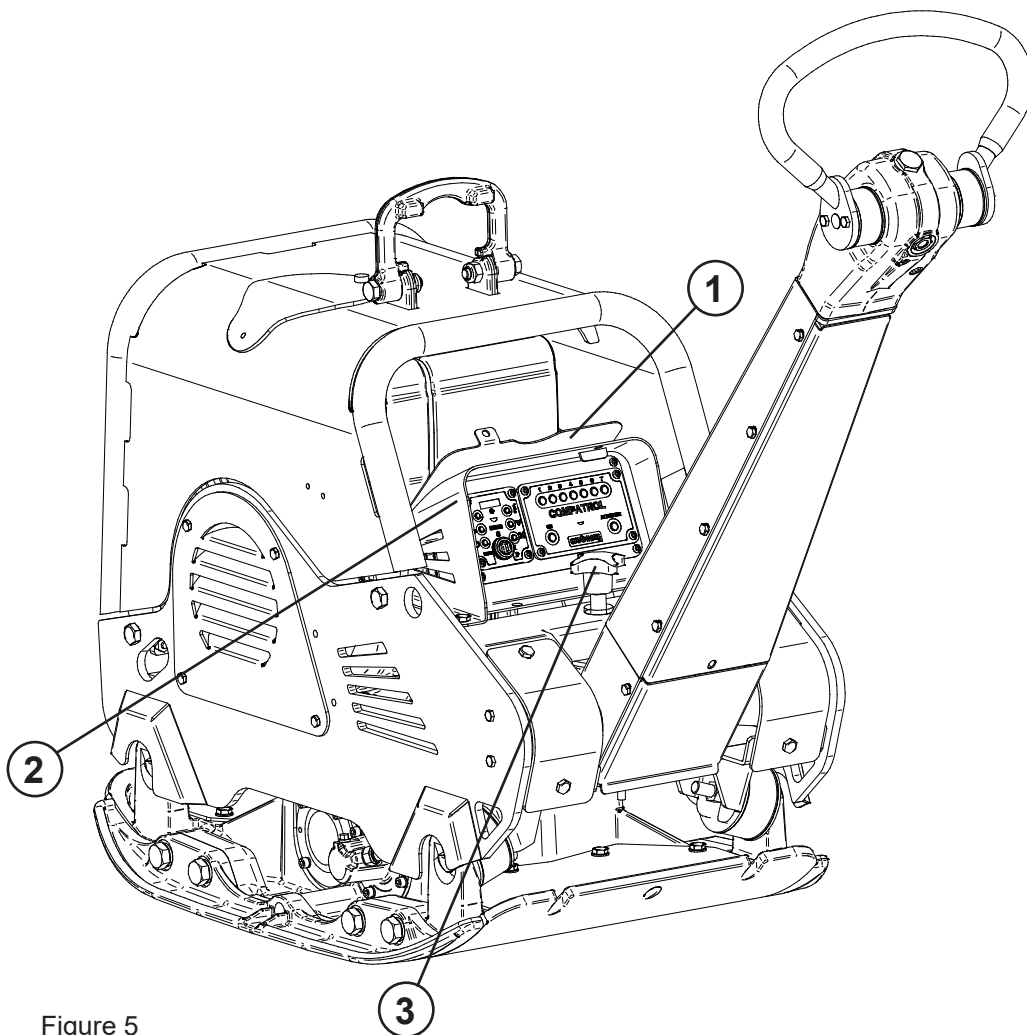

Figure 5
- ▶ Adjust the desired work height of the guide bar with the set screw (position 3, figure 5).
- ▶ Open the vandalism flap (position 1, figure 5).
- ▶ Insert the vandalism flap (1) into the designated holder on the valve box (position 2, figure 5).